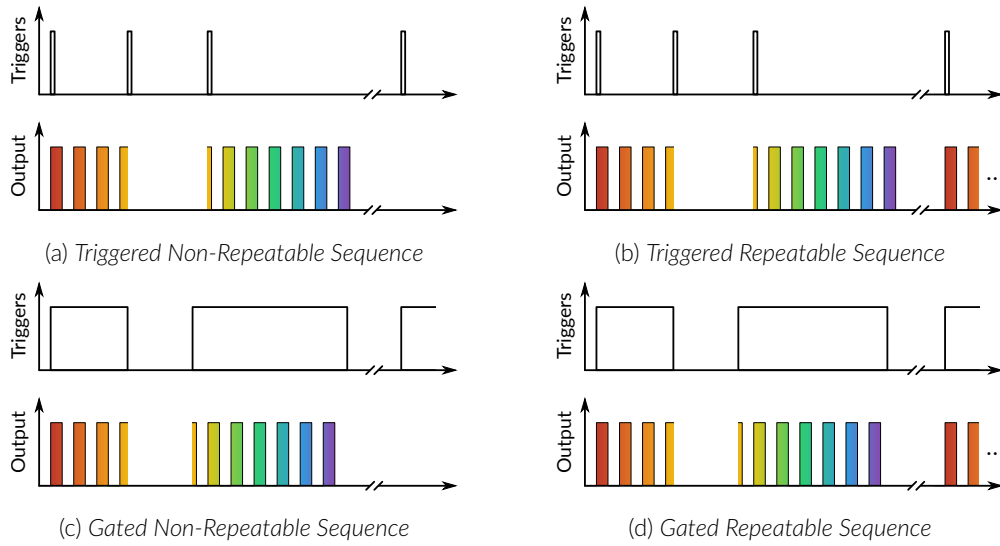

Figure 4.4: Pause Sequence Mode
- **Pause**: This mode activates the channel sequence when a rising edge greater than 3.3 V is detected on the BNC input (Fig. 4.4). Following input pulses (when *Triggered*, Fig. 4.4a) or falling edge (when *Gated*, Fig. 4.4c) will pause the sequence and the sequence will continue when the next rising edge is received. When the **Repeatable sequence** checkbox is checked, the sequence will restart with the arrival of the first input pulse after the sequence has finished (Figs. 4.4b and 4.4d).